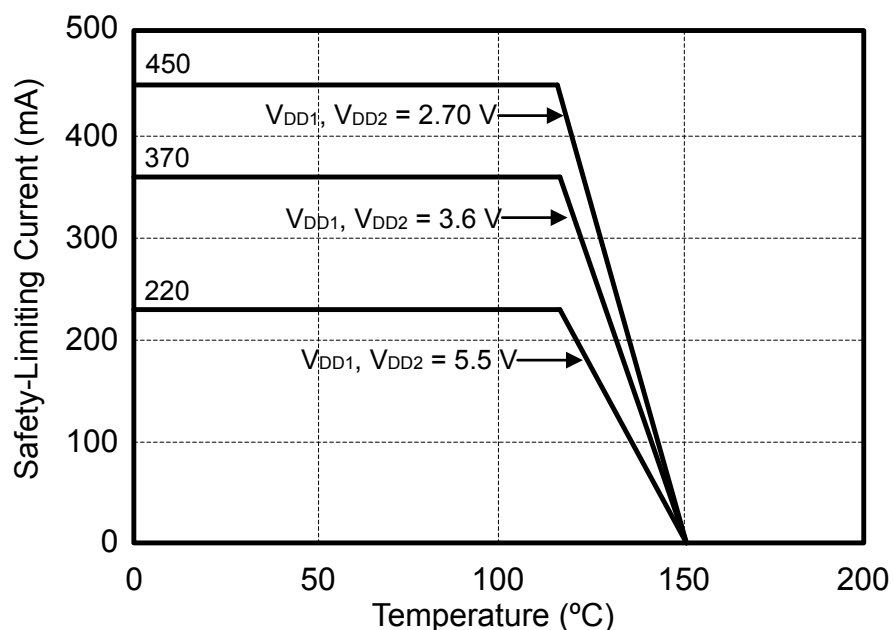
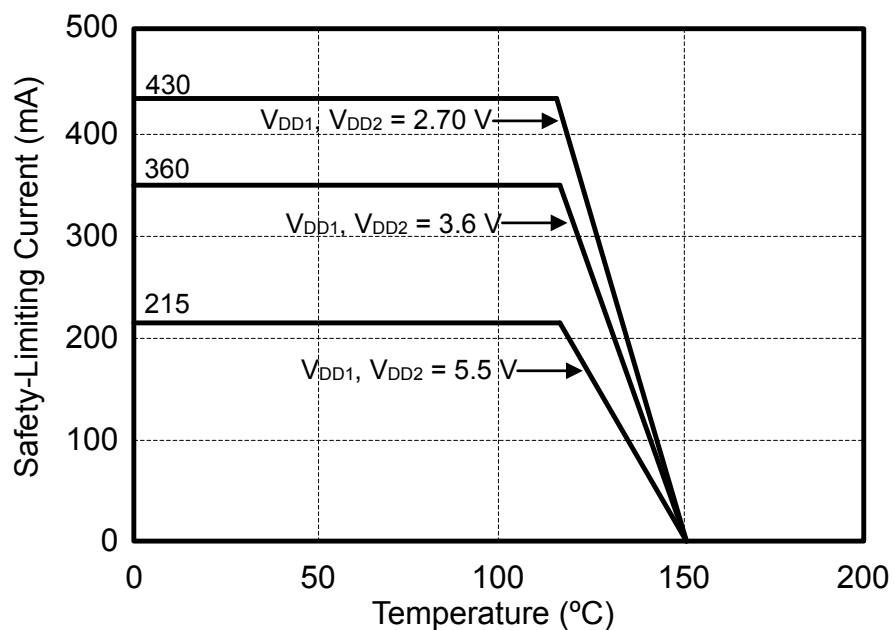

Figure 5.4. (WB SOIC-16) Thermal Derating Curve, Dependence of Safety Limiting Values with Case Temperature per DIN EN 60747-5-2
Figure 5.5. (NB SOIC-16) Thermal Derating Curve, Dependence of Safety Limiting Values with Case Temperature per DIN EN 60747-5-2
1. Maximum value allowed in the event of a failure; also see the thermal derating curve in [Figure 5.4 \(WB SOIC-16\) Thermal Derating Curve, Dependence of Safety Limiting Values with Case Temperature per DIN EN 60747-5-2 on page 23](#) and [Figure 5.5 \(NB SOIC-16\) Thermal Derating Curve, Dependence of Safety Limiting Values with Case Temperature per DIN EN 60747-5-2 on page 23](#).